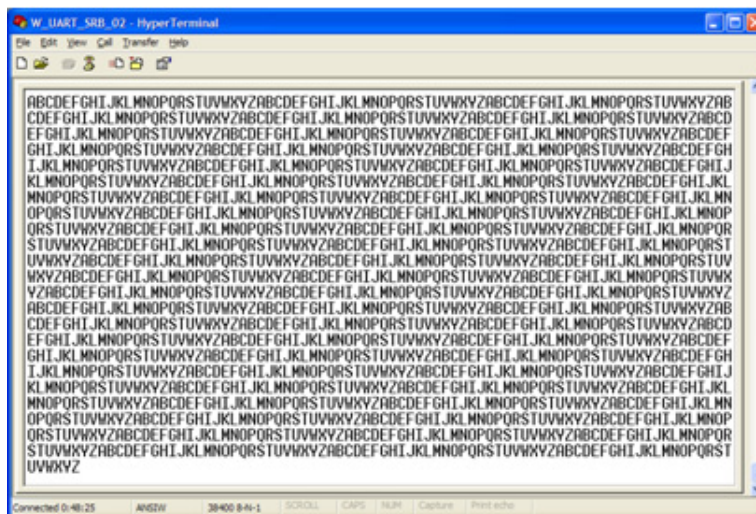

Figure 5-6. Result at the Wireless UART Application
13. On the PC running the Serial Terminal application and is connected to the board running the WirelessUART application, the expected end results are shown in Figure 5-6. If this is not the end result, try running the WirelessUART application on the Simple ZTC again.